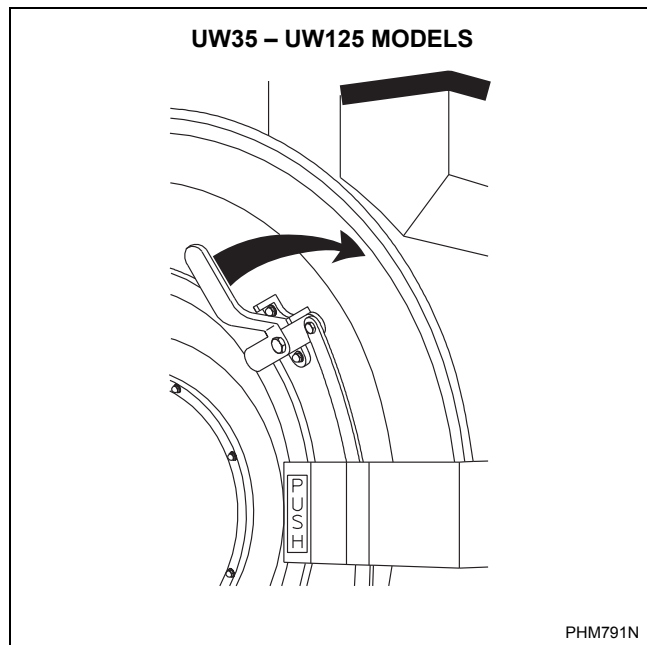

Figure 30
3. **35 – 125 models:** Turn door handle clockwise and swing the door left to open. Refer to *Figure 30*.